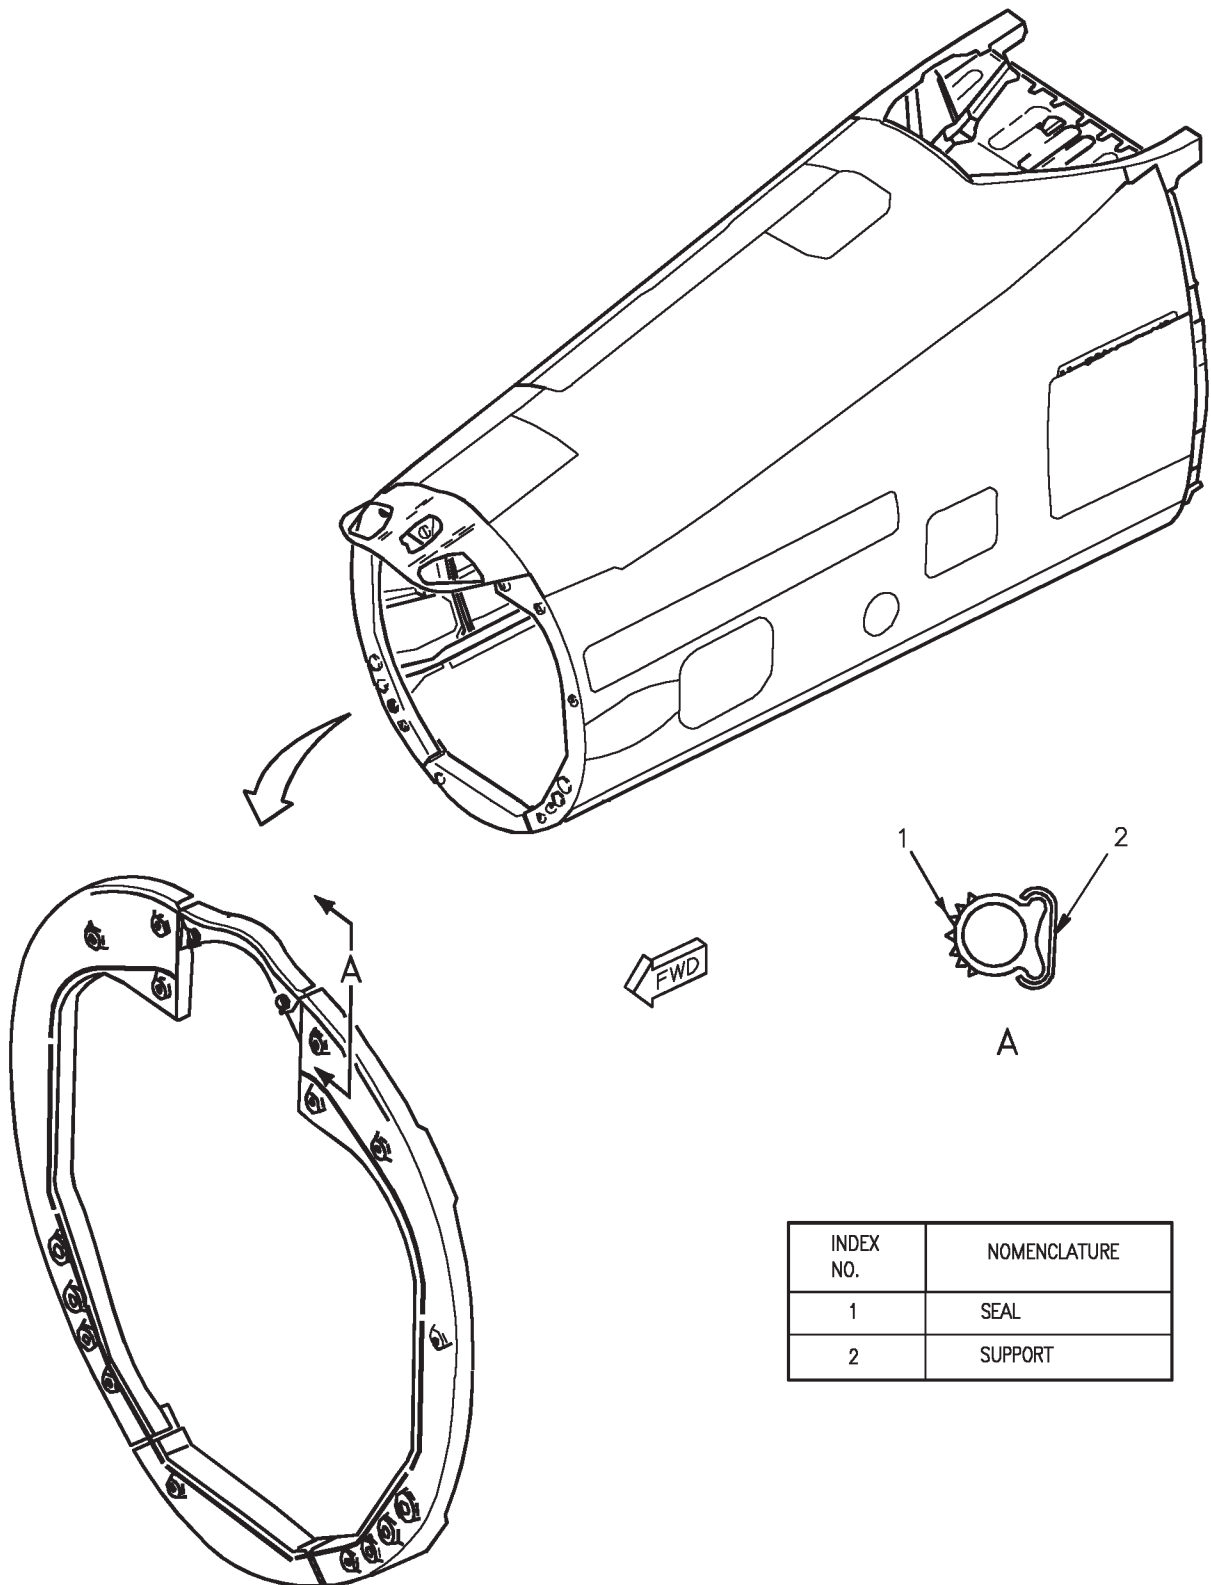

Figure 1. Seals and Sealing
4. **SEALS.** See figure 1. Weather seal, is installed on forward former Y128.50.